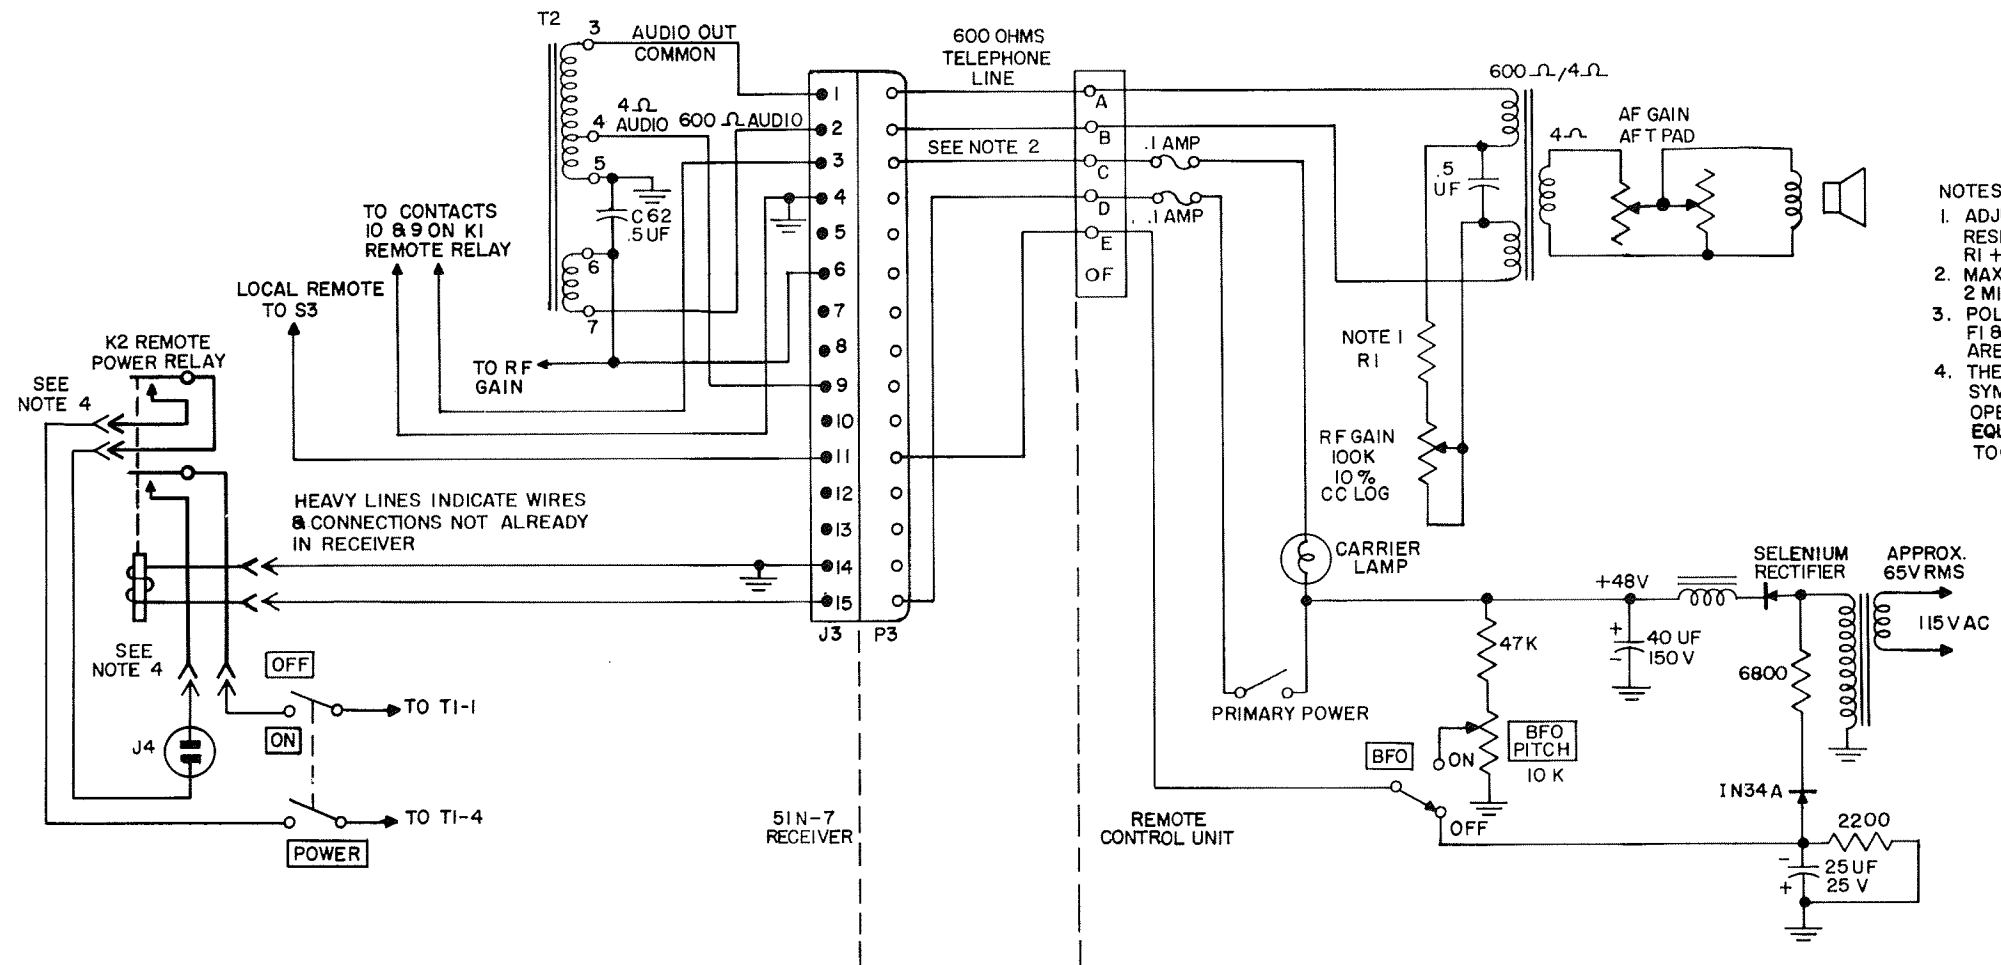

Figure 2-5. Suggested Remote Control Wiring Diagram
Remote application of power may be made by using either the 48-volt remote relay kit, Collins part number 541-0020-00 as shown in figure 2-5, or the 12-volt relay kit, Collins part number 541-0021-00. Both are wired the same although the power supply suggested in figure 2-5 will have to be reworked for
2.5 REMOTE CONTROL OPERATION. (See figure 2-5.)
Figure 2-5 is a schematic diagram showing a suggested layout for the complete remoting of the receiver. It may be used either partially or in its entirety. As shown, this remote installation will permit operation to approximately 2 miles from the receiver. General instructions for making remote operation follow.
Audio output may be remotod by tapping from terminals 1 and 2 of J3 for 600-ohm output or terminals 1 and 9 for 4-ohm output. The a-f gain is then controlled by an a-f T pad as shown in figure 2-5.
Provisions have been made for the operation of a remote carrier indicator lamp which will light whenever the squelch unit of the receiver is opened. This may be done as shown in figure 2-5 or by connecting directly between terminals 5 and 7 of J3. The remote indicator lamp should be a 6-8 volt, 0.15 ampere pilot lamp equivalent to a Mazda type No. 47.
An alternate method of remoting the r-f gain is shown in figure 2-5 and is recommended when the entire set is to be remoted. This method will permit the use of less connecting wiring between the
The bfo circuits of the 51N-7 have been designed to permit remote operation with a minimum of modification. The only adjustment necessary on the receiver itself is to turn the BFO PITCH control fully counterclockwise, thereby activating S3 to the REMOTE position. S3 is attached to the rear of R131, BFO PITCH. The suggested method of remoting this function is shown in figure 2-5.